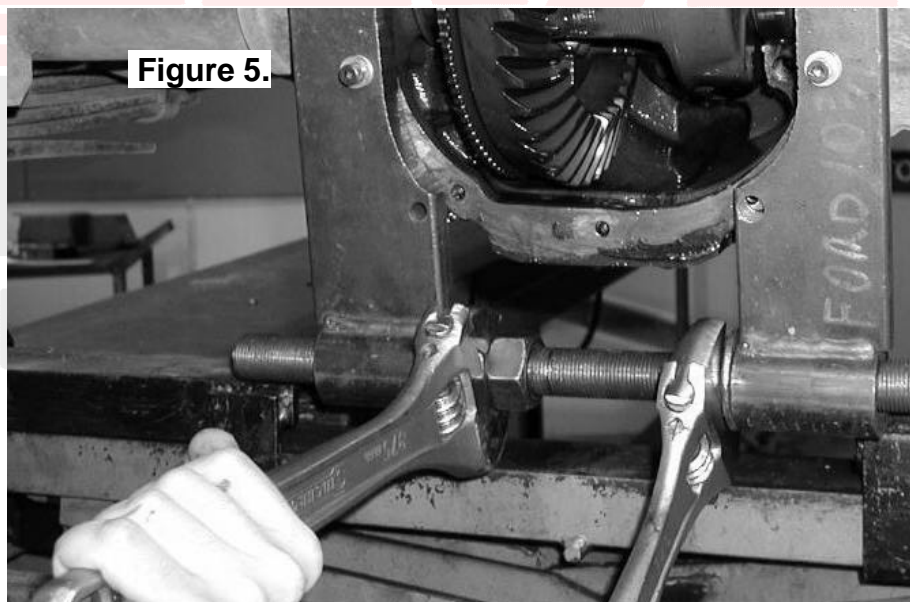

Figure 5.
- ☐ Carefully spread the housing (Fig.5.) enough to remove the differential center. (Refer to your vehicle's service manual).